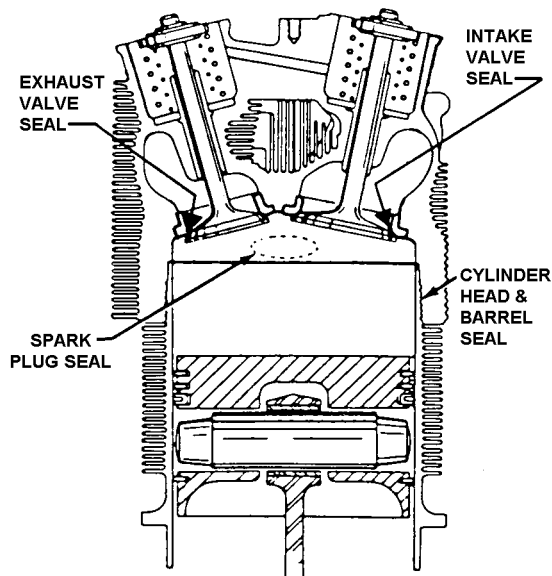

Figure 19-8
See Figure 19-8. The barrel type hydraulic valve tappet consists of a steel body (1), an expanding spring (2), a check valve assembly (3, 4 and 5), a plunger (6), a socket (7) for pushrod end, and a retaining ring (8). A groove (9), around outside of the body picks up oil from the crankcase supply hole. From the exterior groove oil is directed to the interior body groove (11) through hole (10) and from the interior groove through the hole to the reservoir (12). Oil is withheld from reservoir (14) by check valve ball (5) which is supported by a
6. Check the static seal for leakage (See Figure 19-8, "Static Seal"). Positive identification of static seal leakage is possible by listening for air flow sound at the exhaust or induction system port. When checking for cylinder head to barrel leakage, use a soapy solution at the cooling jacket to barrel junction and watch for bubbles. Use a soapy solution around both spark plug seals for leakage. **NO LEAKAGE IS ALLOWED IN STATIC SEALS.**